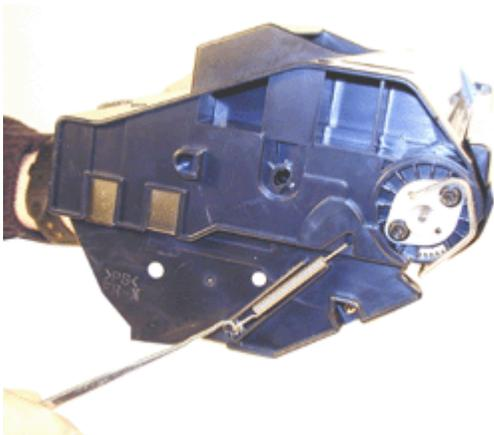

FIGURE 4
2. Remove the spring from the right side of the cartridge. See Figure 4